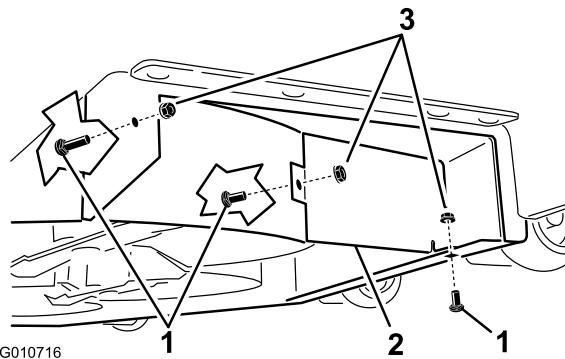

Figure 3
9. Locate the baffle guard in loose parts. Use two carriage bolts (5/16 x 3/4 inch) and two lock nuts (5/16 inch) to the deck to secure the baffle guard to the right baffle and the mower deck as shown in Figure 3. Hand tighten the fasteners.